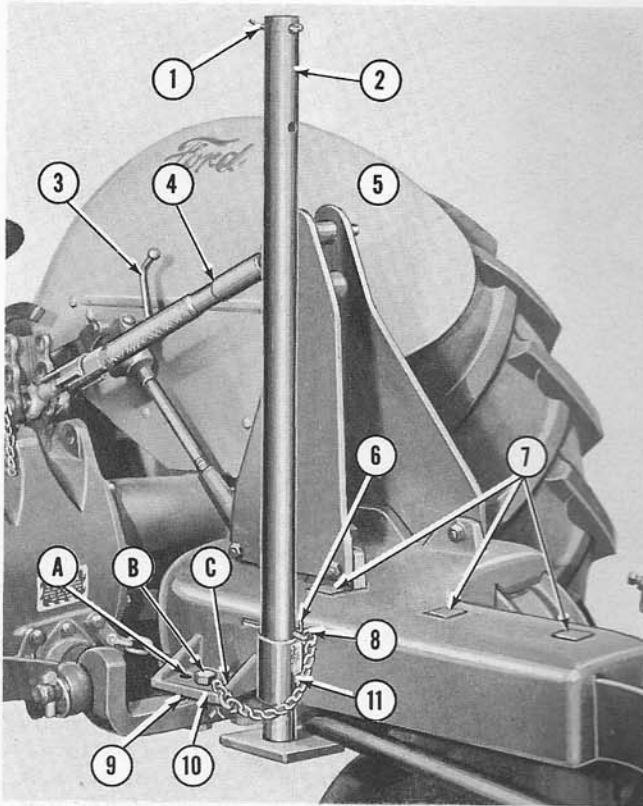

Figure 5
7. Attach the plow support stand (5), Figure 5, to the plow as follows:
- a. Remove the cotter pin (1), Figure 5, from the top hole in the support stand (5).
- b. Insert the stand through the bottom of the bracket (11), Figure 5, on the left side of the weight block, and replace the cotter pin (1) as shown.
- c. For transport purposes, raise the support stand (5), Figure 5, until the bottom hole is above the bracket (11). Secure the stand by inserting the cotter pin (8) through the stand and placing it over the pin (6) as shown.
- d. When using the stand to support the plow, remove the cotter pin (8), Figure 5, and lower the stand until the hole (2) is below the bracket (11). Then insert the cotter pin (8) in the hole (2) and detach the plow from the tractor.
**Leveling the Plow:** The plow should be leveled after making the first cut in a new plowing operation to allow for the fact that the tractor and plow are tilted because the tractor right wheels travel in the furrow. This adjustment is made by turning the tractor leveling crank (3), Figure 5, until the plow is level when the right tractor wheels are in the furrow.
**Top Link:** Under normal, heavy soil conditions, the tractor adjustable upper link (4), Figure 5, should be adjusted approximately 25 inches. Under certain soil conditions, however, it may be necessary to increase the pressure on the furrow wheel over that obtained by the depth adjusting rod and spring so the plow will follow the tractor in the proper operating position. (See Furrow Wheel Adjustment) When these conditions are encountered, the tractor top link should be lengthened and the leveling crank (3) should be adjusted until the desired results are obtained.
**Adjusting the Long Beam:** Under excessively trashy conditions, the long, rear beam may be moved rearward to increase the distance between the front and rear discs. To do this, remove the three bolts (7), Figure 5, which hold the beam to the main frame and move the beam out until the extra set of holes are properly aligned. Replace the bolts (7), lockwashers and nuts and tighten securely.
**Cross Shaft Adjustment:** The cross shaft can be adjusted laterally by changing the position of the bolts which hold it to the main frame. The width of cut on the front disc will be 9" to 10" when the right set of holes (10), Figure 5, are used, and approximately 12" when the left holes (9) are used.
To increase the width of cut on the rear disc to conform to the cut of the front disc, a three hole angle adjustment is provided on the left side of the plow frame. Use the front hole (A), Figure 5, for a 9" cut, the center hole (B) for a 10" cut, and the rear hole (C) for a 12" cut. Under extreme conditions, the width of cut of the front disc may be increased by reversing and inverting the cross shaft from the position shown in Figure 5. The left holes in the cross shaft should be used with the cross shaft in this position.